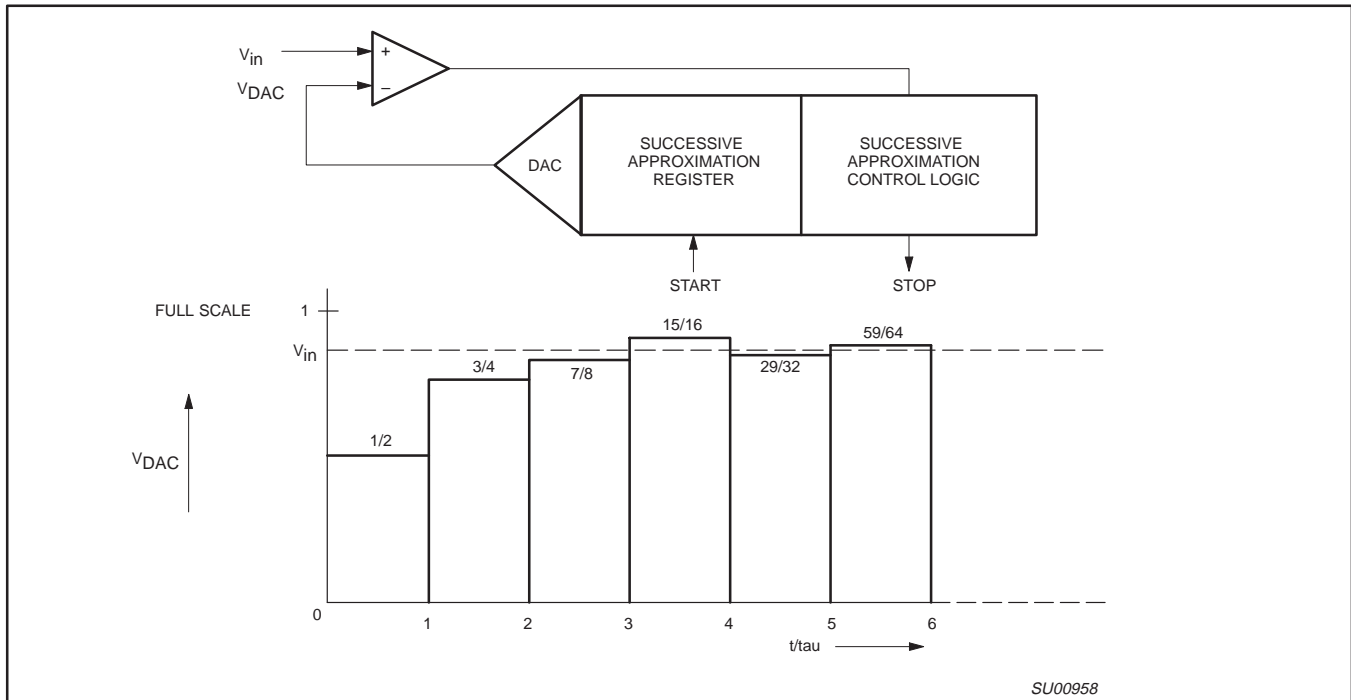

Figure 20. Successive Approximation ADC
**10-Bit Analog-to-Digital Conversion:** Figure 20 shows the elements of a successive approximation (SA) ADC. The ADC contains a DAC which converts the contents of a successive approximation register to a voltage (VDAC) which is compared to the analog input voltage ( $V_{in}$ ). The output of the comparator is fed to the successive approximation control logic which controls the successive approximation register. A conversion is initiated by setting ADCS in the ADCON register. ADCS can be set by software only or by either hardware or software.